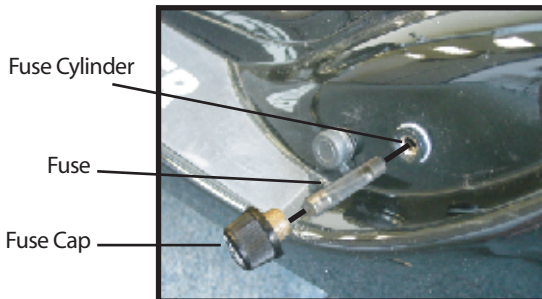

Fig. 5
2. Insert fuse into fuse cylinder and Rescrew cap (Fig. 5)